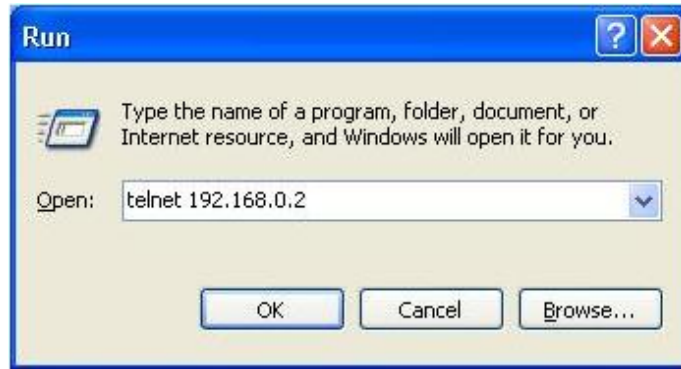

Figure 15 Access through Telnet
Step 2: Enter "telnet IP-address" in the Run dialog box, as shown in Figure 15. The default IP address of a Kyland switch is 192.168.0.2.